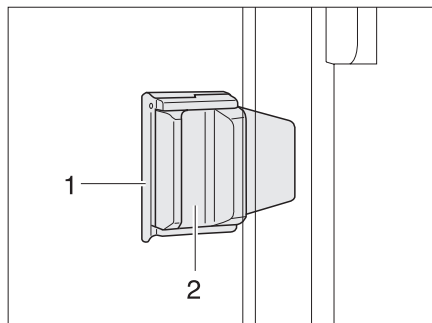

Fig. 22 Sliding window with slide lock
- ▶ Pull out the lock (Fig. 22,1).
- ▶ Press handle (Fig. 22,2) and push it forward or backward at the same time.